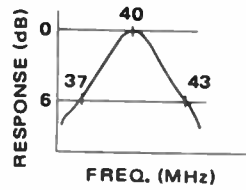

FIGURE 6. VHF Lo
- Step 4: Adjust T4, T5, T6 of RF section for maximum output and best curve symmetry as shown in Figure 6.